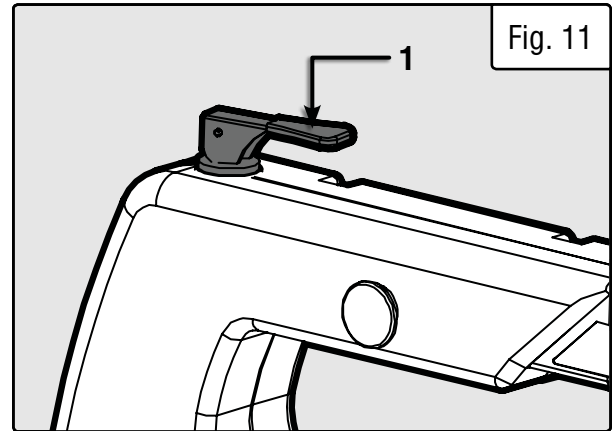

Fig. 11
1. To remove the blade, relieve the tension on it by lifting up the blade tension lever (Fig. 11 - 1). If necessary, turn the lever counterclockwise to loosen the blade holder further.